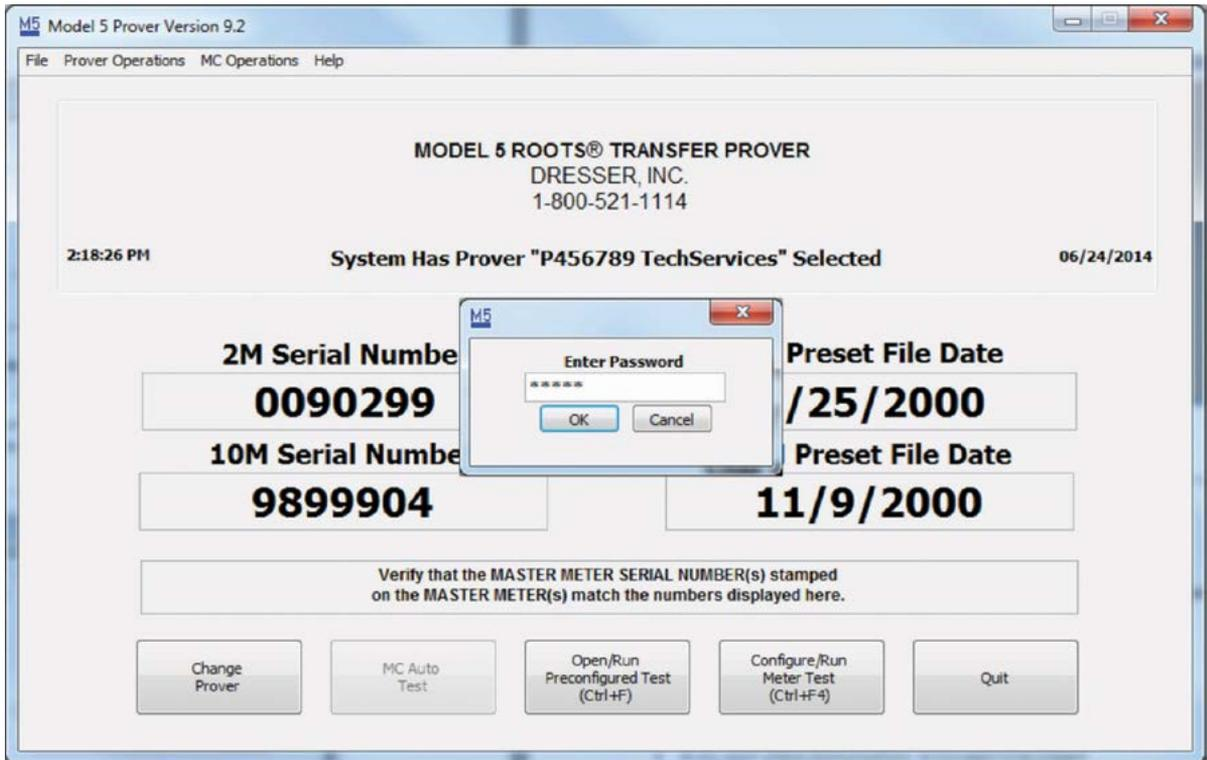

Figure 121: Prover Setup Password
- Upon selecting "Prover Setup, there will be a prompt to enter a password as shown in **Figure 121**. The password is "ROOTS". Capitalization is required. Press "OK."